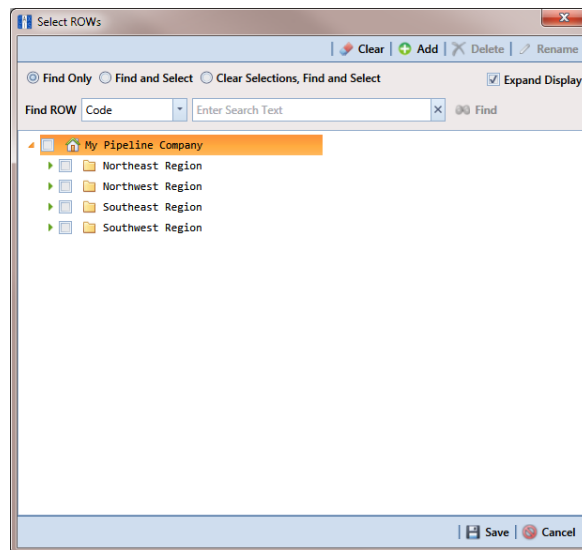

Figure 3-5. Select ROWs
- 1 Click **File > Select ROWs** to open the *Select ROWs* window (Figure 3-5).